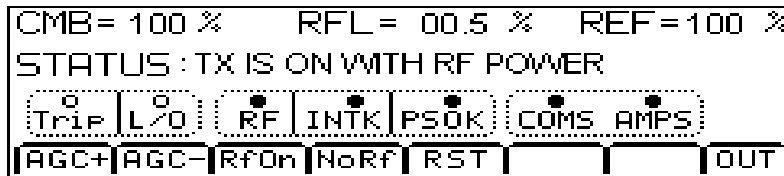

Figure 6 AGC Adjustment
- On the LCD (see Main Menu display in Figure 6), the PWR should be at 000% and the STATUS should be TX IS OFF, NORMALLY.